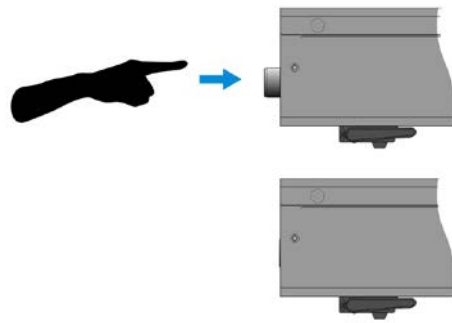

Figure 8-2 Hiding Rotary Knob Diagram
1. When the settings are done, the Voltage Trigger and PD Interval rotary knobs can be pressed down to hide them inside the device as shown in *Figure 8-2* to reduce the chance of wrong touch.
(5) PD Capacitance Rotary Knob